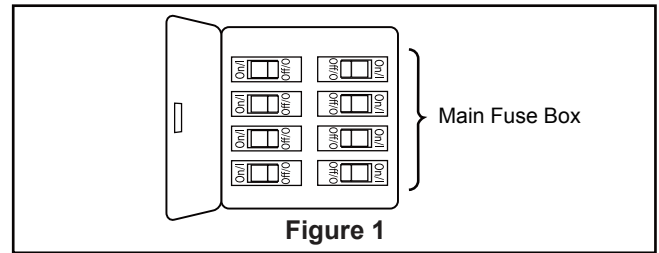
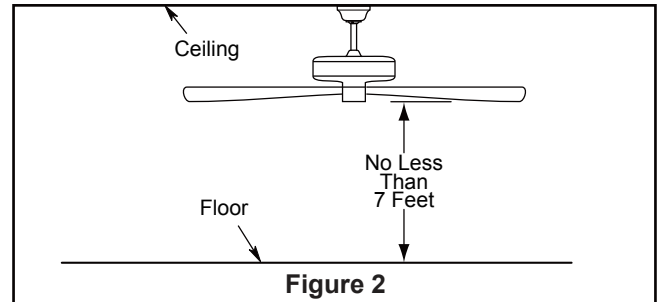
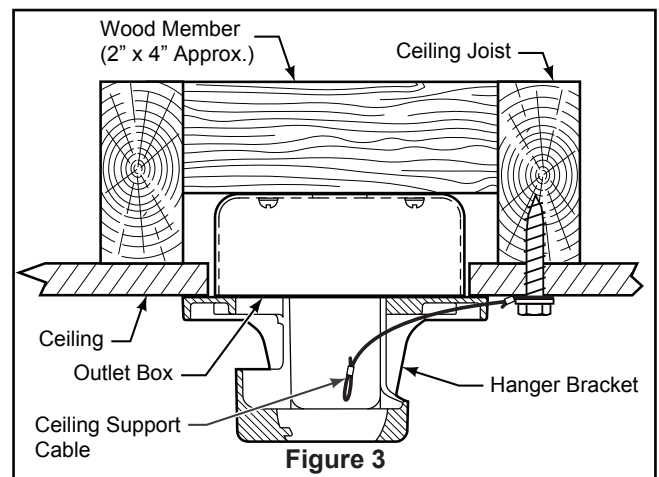

Figure 1
Figure 2
Figure 3
Your new ceiling fan will require a grounded electrical supply line of 120 volts AC, 60 HZ, 15 Amp Circuit. Electrical code requires use of a fan-rated outlet box to support the extra weight and motion associated with a ceiling fan. A fan-rated box will be labeled as such and typically supports up to a 70lb ceiling fan. Fan-Rated Outlet Boxes vary in ratings and design. Ensure the ratings of your ceiling fan outlet box meet the requirements for the ceiling fan being installed. Figure 1, Figure 2 and Figure 3 depicts different structural configurations that may be used for mounting the outlet box.
Low profile box (Figure 1)
Deep box (Figure 2)
Deep box with brace (Figure 3)
1. Remove the hanger ball portion from the downrod/hanger ball assembly by loosening the set screw in the hanger ball until the ball falls freely down the downrod. Remove the pin from the downrod, then remove the hanger ball. Retain the pin and hanger ball for reinstallation in Step 6. (Figure 1)
2. Remove the hairpin clip and clevis pin from the bottom of the downrod. Retain the pin and clip for reinstallation in Step 4. (Figure 2)
3. Loosen the two set screws in the downrod support of the motor assembly. Route the brown, blue, red, gray, yellow wires and safety cable through the downrod. (Figure 3)
To avoid possible fire or shock, be sure electricity is turned off at the main fuse box before hanging. (Figure 1)
The fan must be hung with at least 7' of clearance from floor to blades. (Figure 2)
1. Securely attach the hanger bracket to the outlet box using the outlet box screws and washers supplied with the fan. (Figure 3)
2. Drill a 1/4" pilot hole into the building structure to prevent splitting or cracking with installation of the lag bolt. Using the 3/8" x 2" lag bolt and flat washer, attach safety cable to ceiling joist or wood structural member. The lag bolt will pass through the flat washer, safety cable loop, and into the building structure. (Figure 3)
NOTE: Ceiling support cable cannot be secured to outlet box only, it must be directly secured to ceiling joist or structural member using the 3/8" x 2" lag bolt and flat washer. (Figure 3)
- 1. To set the code on receiver unit, slide dip switches to the same positions as set on the remote control. (Figure 1)
To avoid possible electrical shock, be sure electricity is turned off at the main fuse box before wiring. (Figure 2)
- 2. Slide the receiver into the hanger bracket before wiring as shown in figure 3.
1. Assemble canopy by rotating key slot in canopy over shoulder screw in hanger bracket, taking care not to pinch the wires. Tighten shoulder screw. Fully assemble and tighten second shoulder screw that was previously removed. (Figure 1)
2. Securely attach and tighten the canopy screw cover over the shoulder screws in the hanger bracket utilizing the key slot twist-lock feature. (Figure 2)
1. Lay flat side of blade holder on a flat surface with the inside of the blade holder arm facing up. This is the side with the threaded posts and pitched foot. Position the blade over the blade holder with the threaded posts showing. Make sure the bottom edge of the blade is fully seated against the blade holder. Place blade cover on top of the blade, positioning the holes over the threaded posts. With a Phillips screwdriver, thread three screws into the posts but do not fully tighten. Prior to final tightening, position the centerline of the blade holder with the center of the end of the blade. Tighten three screws to secure the blade. (Figure 1)
2. Secure the blade holders to the flywheel using the 1/4\"-20 screws, the post on the blade holder need to align the hole between the 1/4\"-20 threaded holes located on the bottom of the flywheel (Figure 2)
1. Remove the six screws in the support bracket at the bottom of the motor assembly. Assemble the light plate assembly to the support bracket using the previously removed screws. (Figure 1)
2. Remove the three screws in the light plate assembly. Assemble the light kit assembly to the light plate assembly using the previously removed screws. (Figure 2)
- 1. **IMPORTANT:** Using a full range dimmer switch (not included) to control fan speed will damage the fan. To reduce the risk of fire or electrical shock, do not use a full range dimmer switch to control the fan speed. (Figure 1)
- 2. Restore electrical power to the outlet box by turning the electricity on at the main fuse box. (Figure 2)
- 3. Remove the battery cover from remote control by screwdriver and retain the screw for later. (Figure 3)